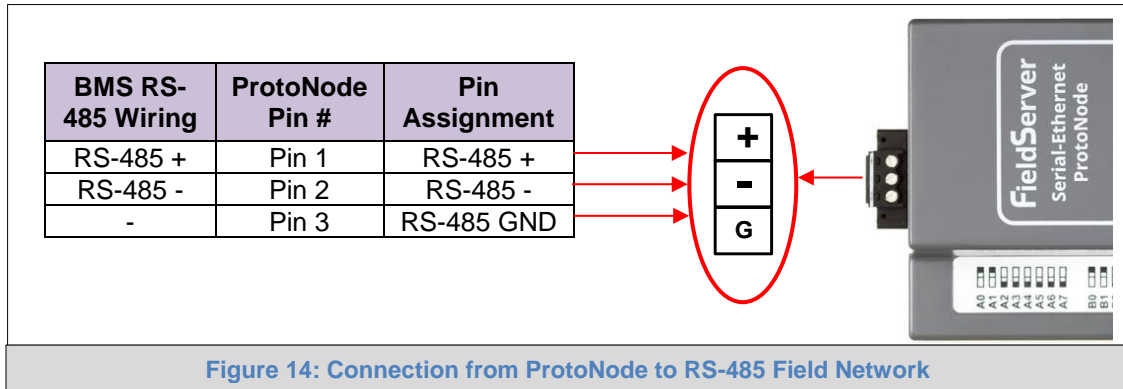

Figure 14: Connection from ProtoNode to RS-485 Field Network
- Connect the RS-485 network wires to the 3-pin RS-485 connector on ProtoNode FPC-N34 as shown below in **Figure 14**.